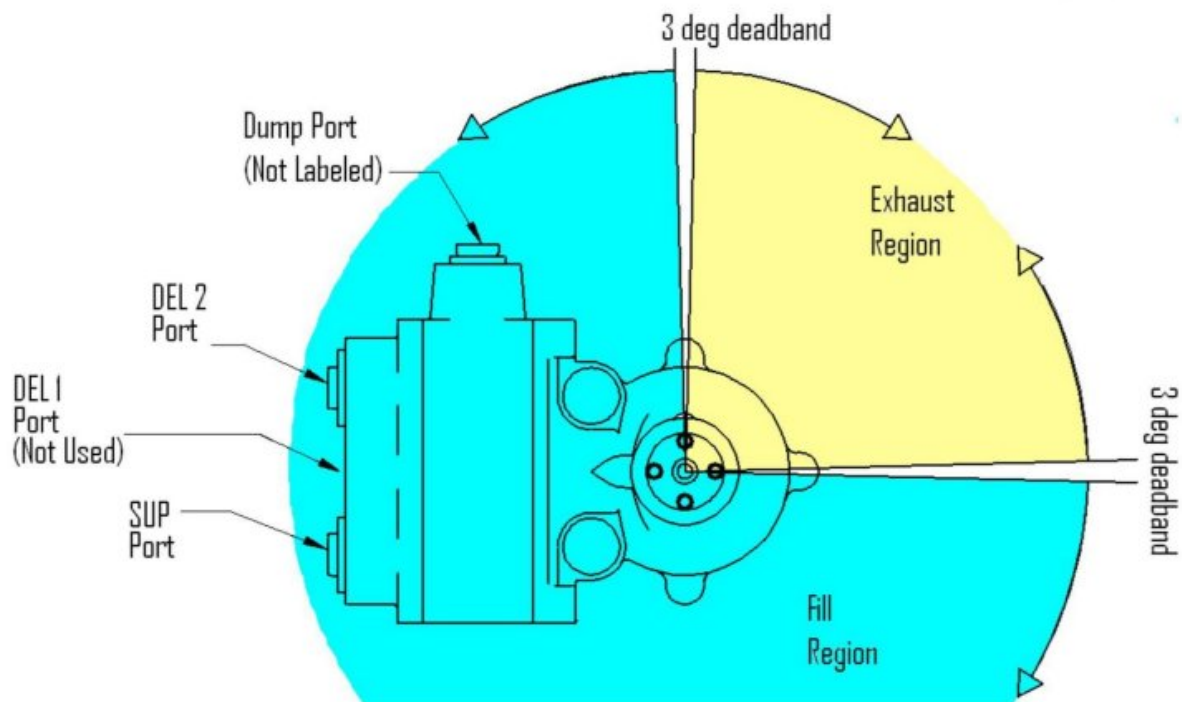

Figure 1-1
4. To ensure HCV is working properly, disconnect the linkage from the control arm and raise the control arm approximately 20 degrees above horizontal. Air pressure should inflate the air springs and raise the suspension. **Refer to Figure 1-1.**
### 2. Verify proper Drive Collar Indicator Orientation & Flow Paths (Refer to Figure 1-1.)